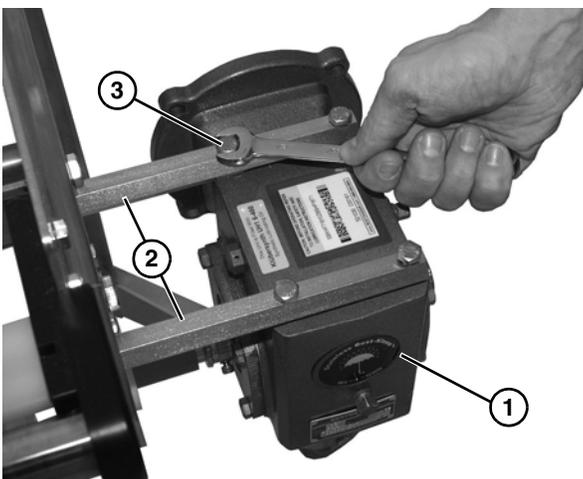

Figure 7
4. Attach the gearmotor assembly (Figure 7, item 1) to the gear reducer hex mounting posts (Figure 7, item 2) with four bolts (Figure 7, item 3).